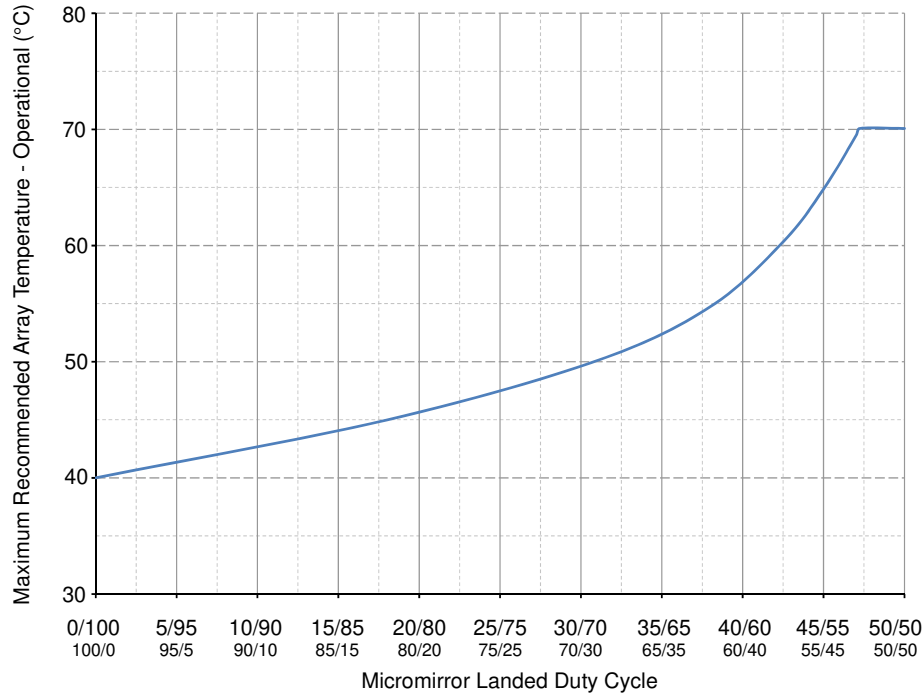

Figure 6-1. Max Recommended Array Temperature—Derating Curve
- (11) Per 図 6-1, the maximum operational array temperature should be derated based on the micromirror landed duty cycle that the DMD experiences in the end application. Refer to セクション 7.7 for a definition of micromirror landed duty cycle.
- (12) Long-term is defined as the usable life of the device.
- (13) The maximum optical power that can be incident on the DMD is limited by the maximum optical power density and the micromirror array temperature.
- (14) Short-term is the total cumulative time over the useful life of the device.